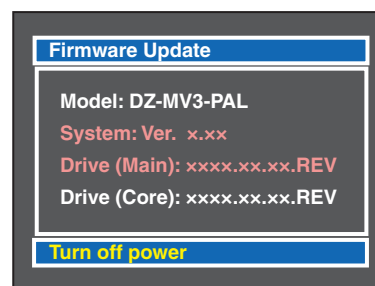

Fig. 4-6-7 Screen for Verifying the Version of Updated
- 6) When all required updating is complete, the screen for verifying the version of updated firmware will appear, and the updated firmware will be displayed in red (see Fig. 4-6-7).